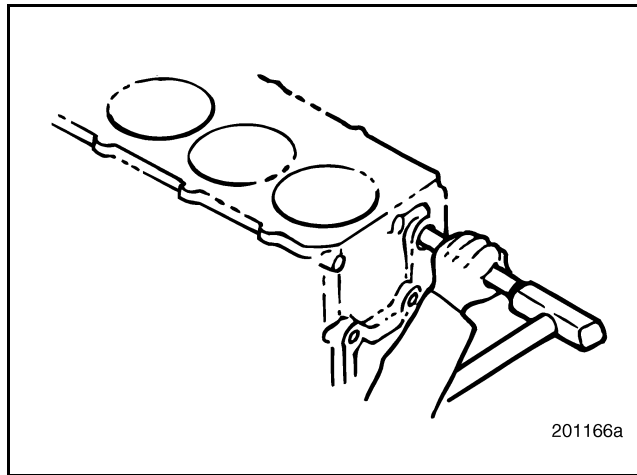

Figure 193 — Cylinder Block Cup Plug Installation
- Using a proper driver, align the plug in the hole and drive it inward until the outer lip of the plug is 0.090 ± 0.040 inch (2.286 ± 1.016 mm) below the machined counterbore. Refer to Figure 193.